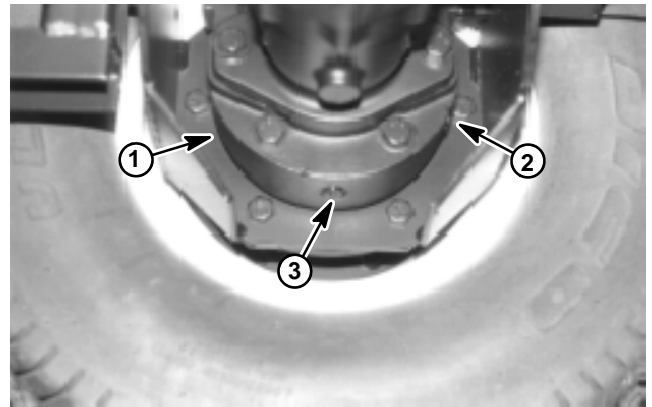

Figure 14
7. Make sure drain plug is installed in bottom of brake assembly (Fig. 14). Fill planetary wheel drive/brake assembly to proper level with SAE 85W-140 gear lube (see Operator's Manual). Capacity is approximately 16 oz. (.47 l) per wheel.